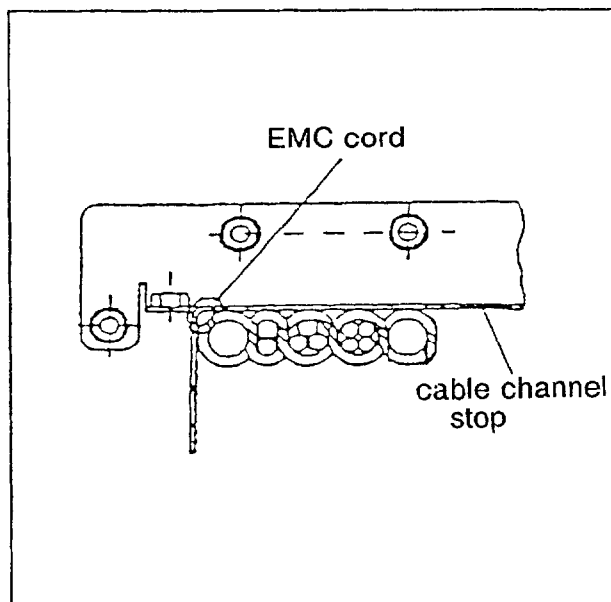
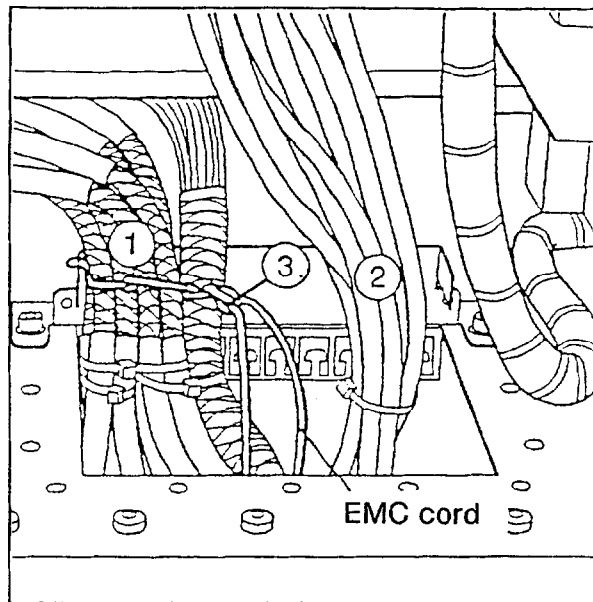

Fig. 1
Fig. 2
- 4) The shieldings of the cables listed below must always be grounded in the EMV cable channel (see Fig.1/2).
- Introduce the EMC cord in the corner of the cable channel stop and knot as two equal ends (Fig.1).
- Lead the shielded cables - recognizable by the exposed braiding (1/Fig.2) - through the cable channel and arrange the cables or cable bunches (max. 4 cables) according to their diameter (Fig.1)
- Secure the cables with cable ties (Fig.2). Make sure that the cables are pressed together and the exposed braiding projects beyond the upper edge of the cable channel stop.
- Wrap the EMC cord around the cables or cable bunches (Fig.1/2). Compensate the different diameters of cables and cable bunches by tying one or more knots or by wrapping with the EMC cord. Tie a knot in the EMC cord after wrapping the last cable (3/Fig.2) and let the ends hang free without cutting them.
- Run the unshielded cables (e.g. protective ground wires, fiber optic cables, etc.) through the cable channel (2/Fig.2) and secure with cable ties (the fiber optic cables must not get pinched).